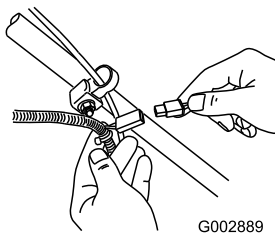

Figure 23
1. Connect the charger to the mower wire harness located below the ignition key (Figure 23).